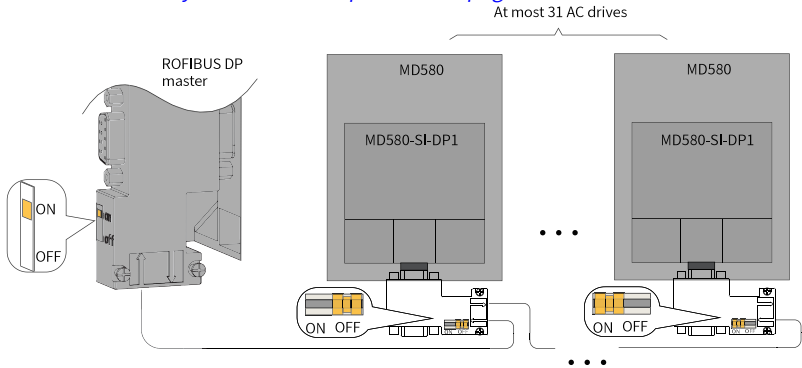

Figure 5-33 Connection of the multi-device system without repeaters
- For the multi-drive system without repeaters, termination resistors need to be connected to the first and last AC drives, as shown in *"Figure 5-33 Connection of the multi-device system without repeaters" on page 75.*